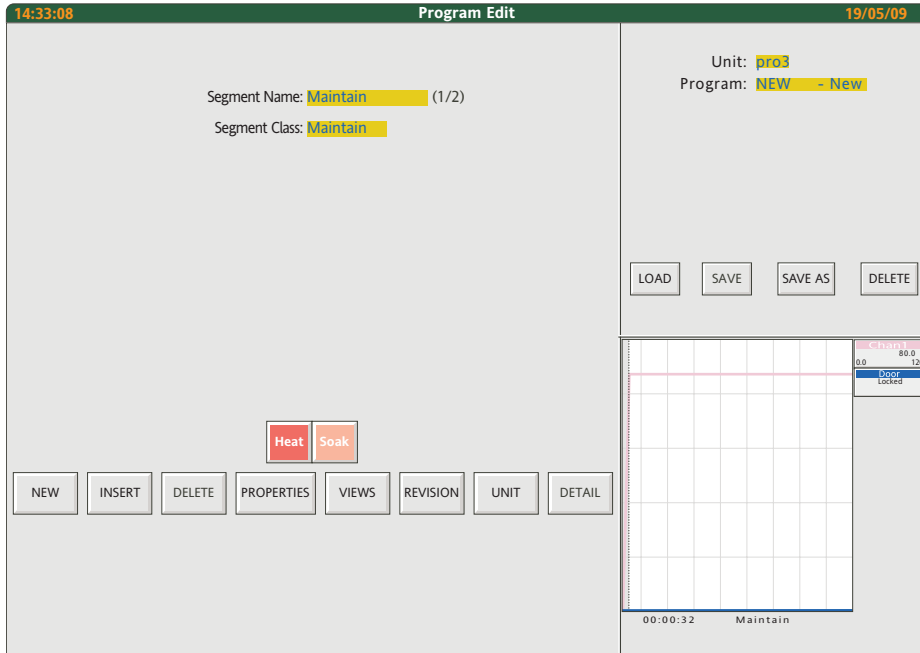

Figure 4.12.3b Adding a second segment
5. Operate 'Insert' again. The 'Insert Segment' pop-up appears again, with the default next segment (Maintain) (Figure 4.12.3b).